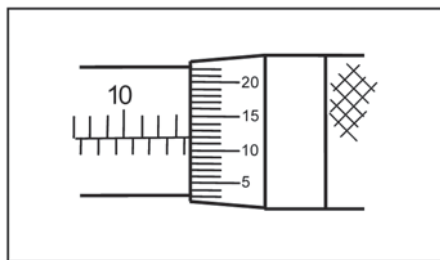

Figure 4
g. What is the reading on the measuring tool shown in Figure 4?